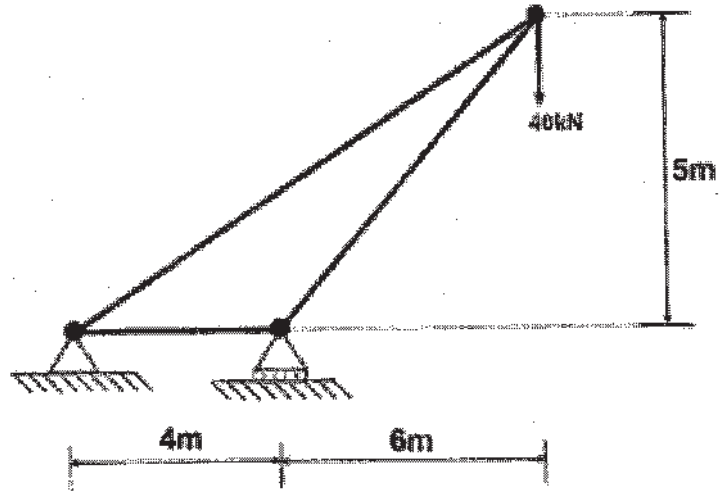

Fig . 8
Q. 21. Analyse the triangular frame shown in Fig. 8 by Matrix Stiffness method. Take $A = 200 \text{ mm}^2$ and $E = 2 \times 10^5 \text{ N/mm}^2$.